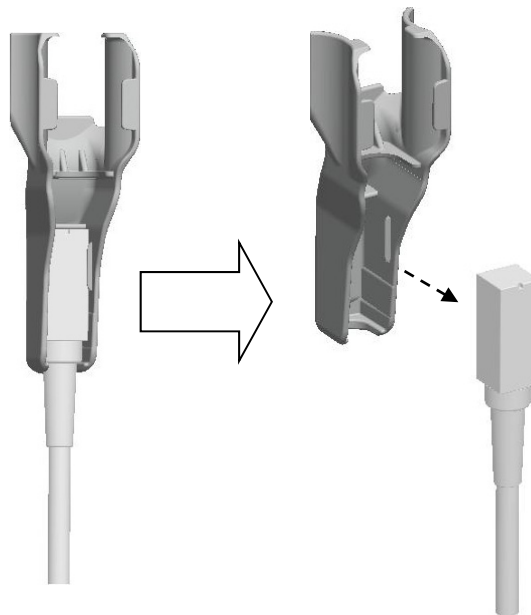

Fig.12 How to release magnetic sensor from the Magnetic sensor attachment
- 2) Detach the magnetic sensor from the Magnetic sensor attachment as shown Fig.12 in the out of operative field.